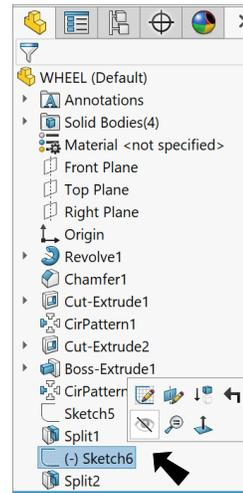

Fig. 40
- Step 2. **Hide Sketch6.** To hide, click **Sketch6** in the Feature Manager and **Hide**  on the context toolbar, **Fig. 40.**